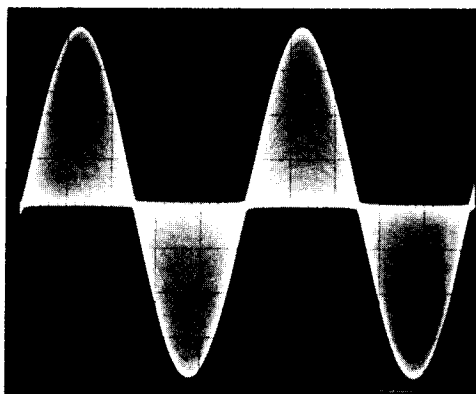

Fig. 2-8: Oscilloscope Display for Steps 13 and 15
- G Adjust the audio oscilloscope's timebase, vertical sensitivity, and trigger controls to obtain a display like the one in Fig. 2-8.
- E Adjust the oscilloscope's timebase, vertical sensitivity, and trigger controls to obtain a display like the one in Fig. 2-8.
- F Set the audio oscillator's frequency to 50Hz, adjust the audio oscillator's output level until the 8185A Stereo Generator's VU meter reads between "-3VU" and "0VU", then adjust the oscilloscope's timebase, vertical sensitivity, and trigger controls to obtain a display like the one in Fig. 2-8.
- Set the audio oscillator's frequency to 15kHz, adjust the audio oscillator's output level until the 8185A Stereo Generator's VU meter reads between "-3VU" and "0VU", then adjust the oscilloscope's timebase, vertical sensitivity, and trigger controls to obtain a display like the one in Fig. 2-8.